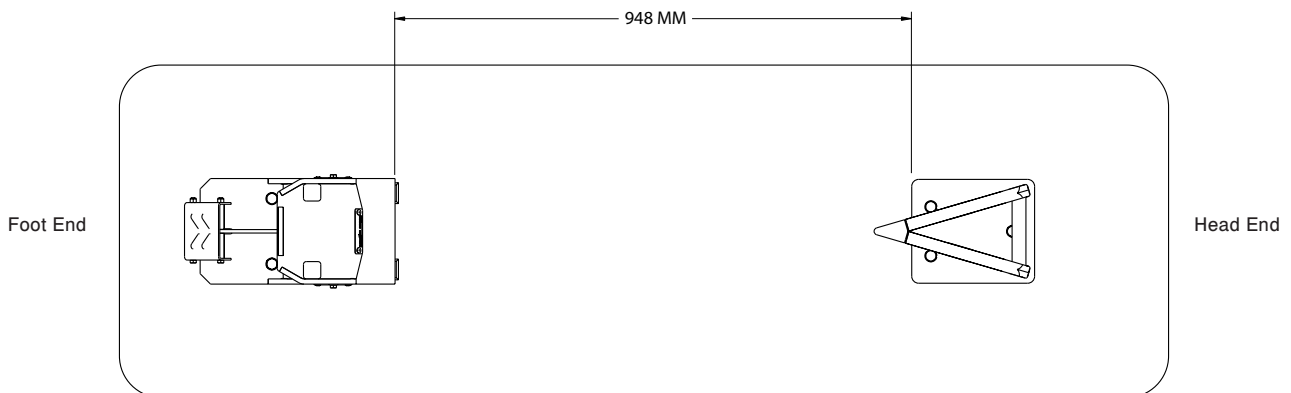

Figure 5: Fastener Spacing
3. Confirm fastener spacing as shown in Figure 5.